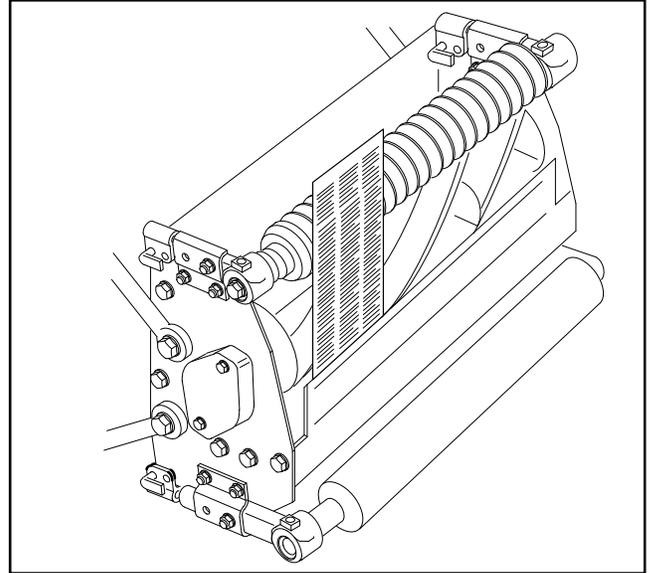
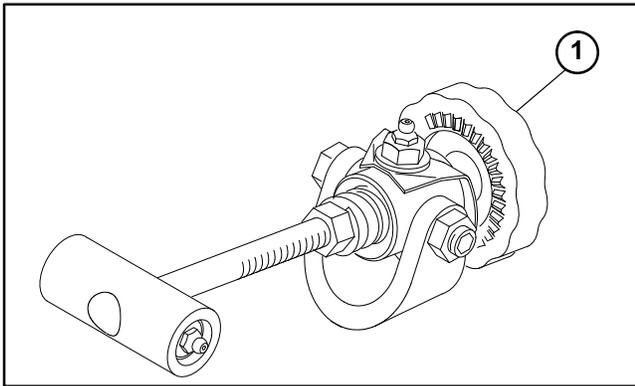
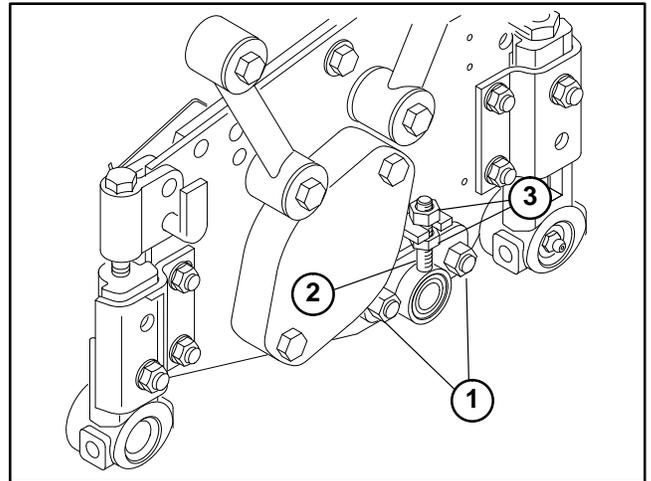

Figure 8
Figure 7
Figure 9
## Bedknife Parallel to Reel (Fig. 7 through Fig. 9)
1. Remove any reel contact by turning the bedknife adjustment knob counterclockwise (Fig. 7). Tip cutting unit to gain access to the reel and bedknife (Fig. 8).
4. Loosen both carriage bolts on bedbar adjuster (Fig.9).
5. Adjust nuts to move bedbar adjuster up or down until paper is pinched along entire bedknife surface, when bedknife adjustment knob is adjusted to no more than two clicks beyond first contact of reel bedknife (Fig.9).